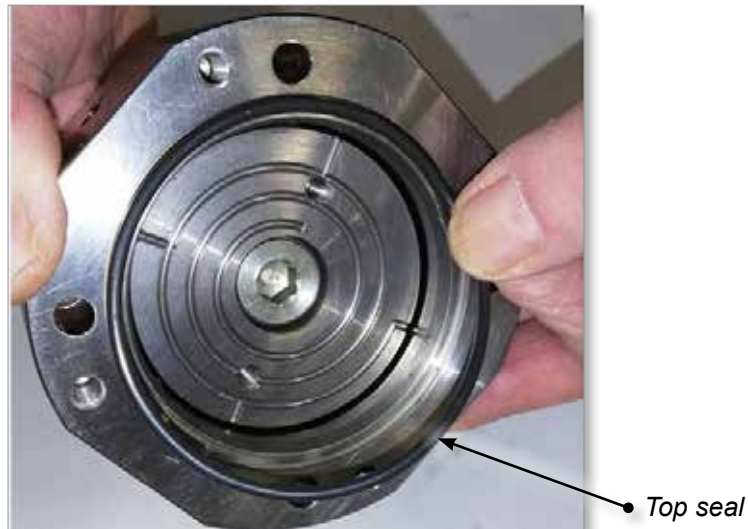

Figure 4-16 Install the top seal
2. Install the cylinder top seal. See Figure 4-16.